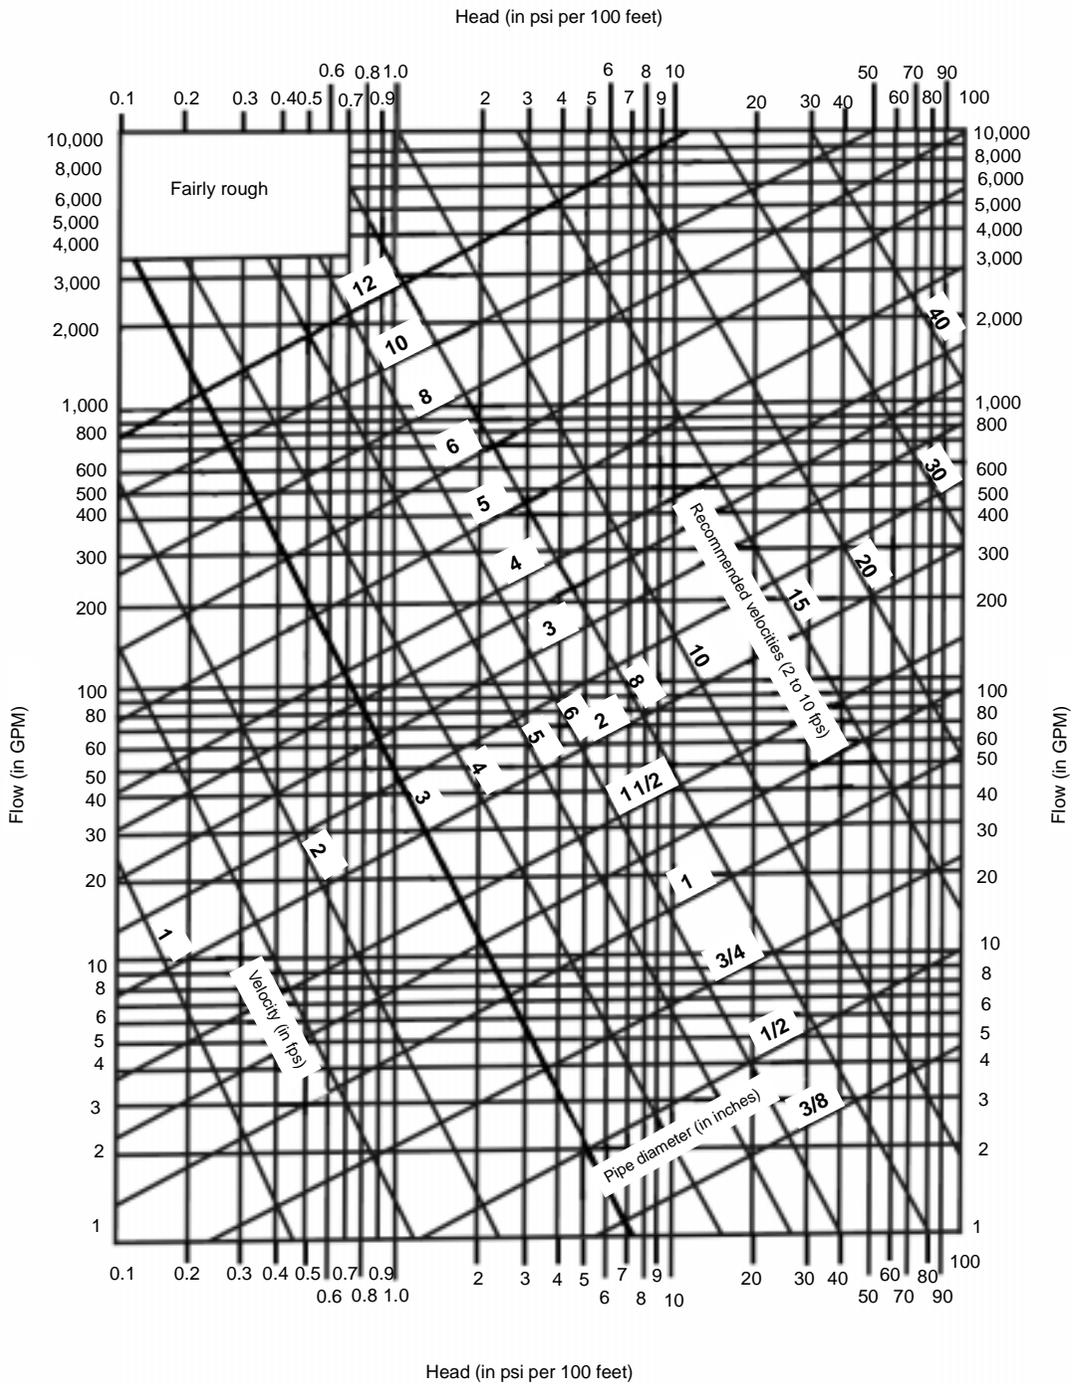

Figure D-3. Friction Loss, Fairly Rough Pipe
Step 5. Select a 6-inch diameter pipe and a velocity of 2.6 fps (intersection of selected pipe and Q). See *Figure D-3, page D-9.*